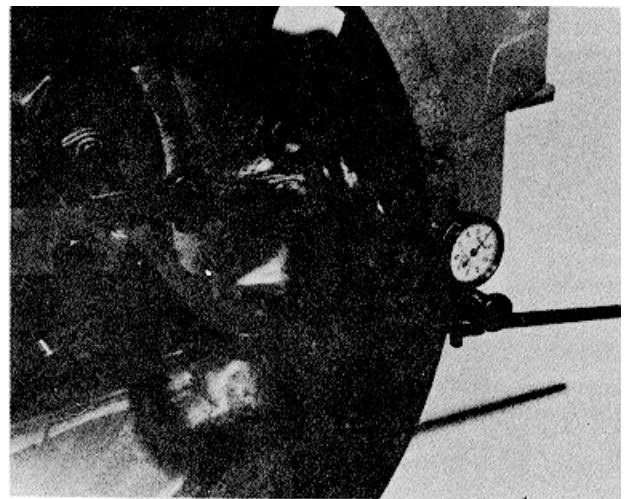

Fig. 14-15, (N11448). Indicating flywheel housing face
1. Attach ST-112 and a dial gauge as shown in Fig. 14-15.